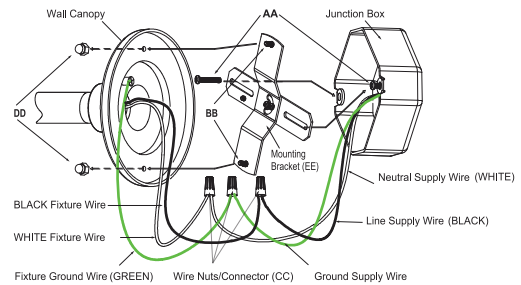

Figure 4
Connect the fixture LNG wire to supply wire using wire nuts. Tuck all wires back into the J-box, make sure no exposed un-insulated wires. (Figure 4)
Place the WALL CANOPY over the JUNCTION BOX and onto the fixture's MOUNTING SCREWS (BB) and adjust the fixture MOUNTING SCREWS (BB) until they protrude out an appropriate height from the back of the WALL CANOPY to allow the SCREW CAPS (DD) to hold the WALL CANOPY tightly against the wall. Remove the WALL CANOPY and secure the position of the MOUNTING SCREWS (BB) against the MOUNTING BRACKET (EE). (Figure 4)